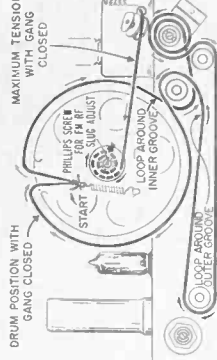

Figure 5. Dial Stringing (Present Production).
*Loosen Phillips screw that is located on tuning gang shaft. See figure 5. Loosen FM tuner string until it is slack. Perform instruction listed under "Adjustment". Remove slack in FM tuner string by rotating the washer, to which it is attached, clockwise when viewed from front of chassis. Tighten screw.